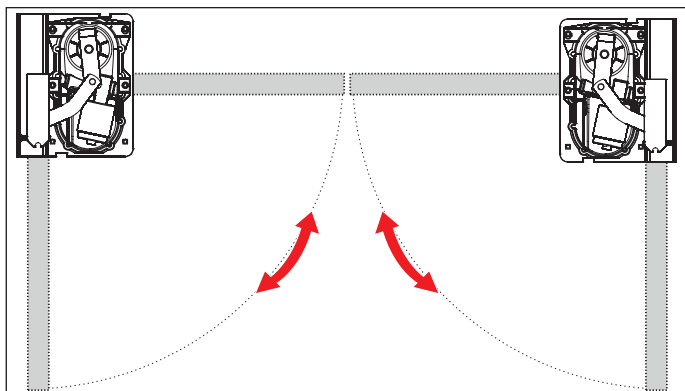

Fig. 3
1. Place the foundation box with the operator unit into the prepared foundation according to the opening direction of the gate leaf as shown in Fig. 3. See also Chapter “3.4 Explanation of terms and tool symbols used”.